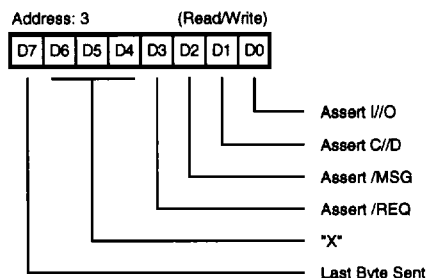

Figure 24. Target Command Register
Target Command Register Address 3 (Read/Write). When connected as a target device, the Target Command Register (Figure 24) allows the CPU to control the SCSI Bus Information Transfer phase and/or to assert /REQ by writing this register. The Target Mode bit (Mode Register, bit 6) must be TRUE (1) for bus assertion to occur. The SCSI Bus phases are described in Table 3.